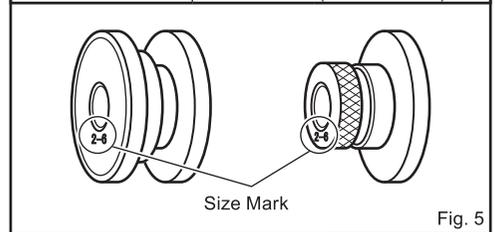

Fig. 5
1. Use rollers that match the pipe being processed. (Refer to Fig. 1, Fig. 5)
Changing the rollers. (Fig. 5)